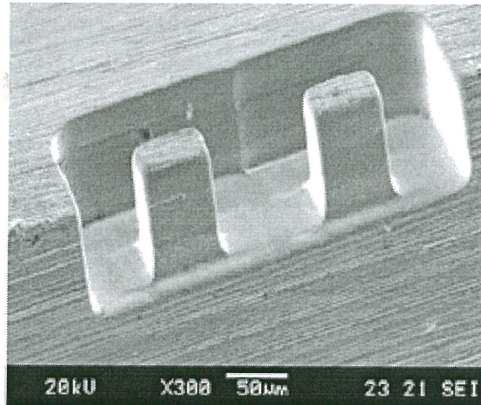

Figure Q5(b)
- (b) **Figure Q5(b)** shows a miniature component used a medical device. As a process engineer, you have identified that electrochemical machining (ECM) is the most suitable process to produce it. Propose and sketch the machine and tooling setup in order to produce the component and explain the working principle of that particular process. (8 marks)